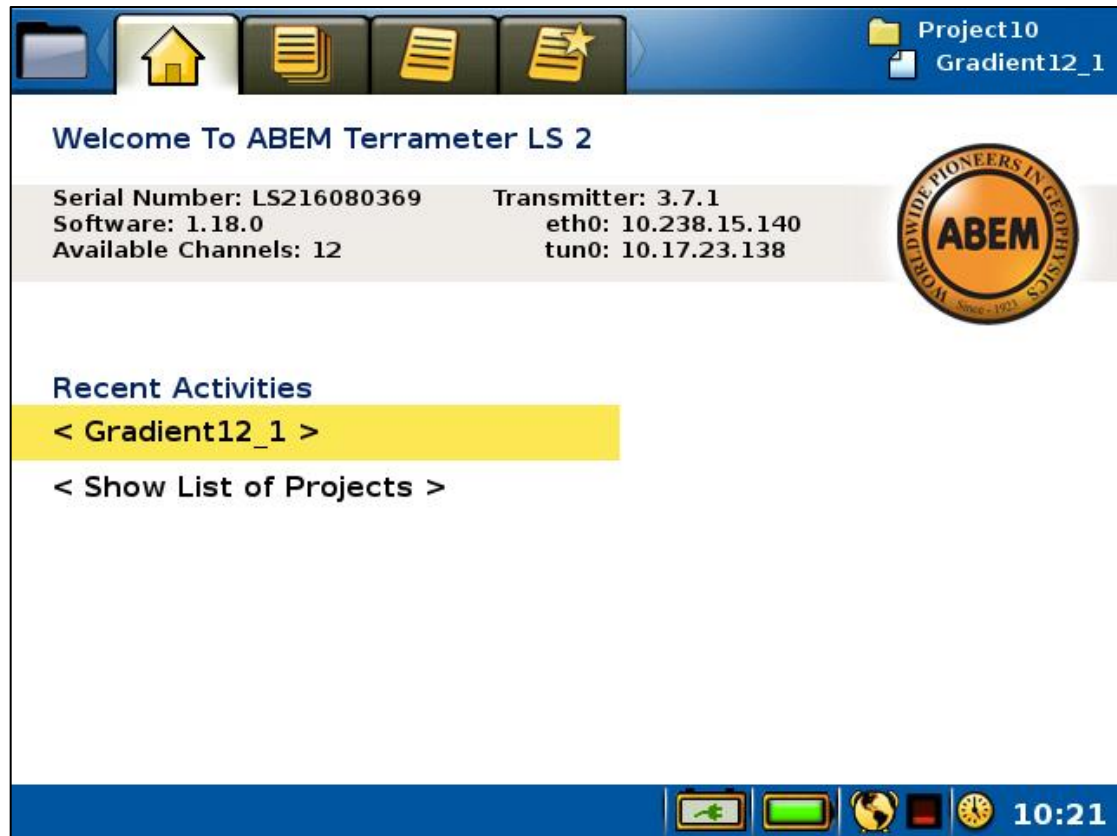

Figure 10 The Start View
When starting the Terrameter LS 2 the “*Projects/Welcome*” *View* (Figure 10) will appear. Here the serial number of the instrument, the application software version, the number of measuring channels, the transmitter firmware version, the network IP address and the VPN tunnel address are displayed. Furthermore the name of the most recent measurement activity is displayed at the top right part of the *Screen*.
- Otherwise if the active *Project* does have a *Task* then the name of the active *Task* will be shown. See Figure 10 for an example. Pressing <Ok> will in this case change to the “*Measure/Progress*” *View* of this *Task*. This *View* is explained in chapter 6.9.1